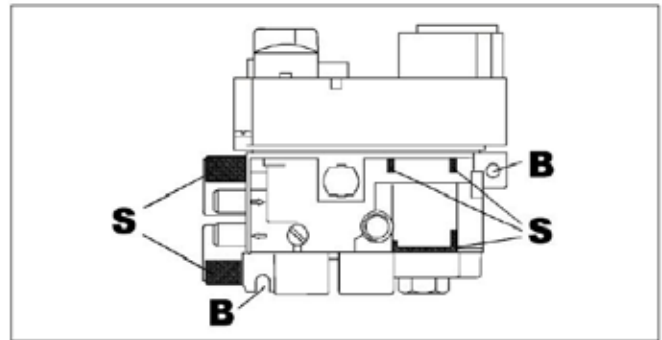

Figure 3: S=Clamp Areas, B=Mounting Points
4. Connect pipe to valve inlet and outlet. When threads are tightened, the valve must be held at the designated points (see figure 3). Do not apply pressure to top casting or plastic cover. Check all connections for leaks.